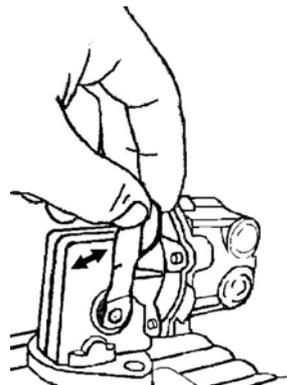

Fig. 5.3
- (1) Check fuel cock located at the tank delivery is open.
- (2) For engines equipped with Ronim-V and SMI gearboxes, then operate repeatedly (for 6 or 7 times) the lever of the fuel pump (fig. 5.3). If the manual pump valve is clogged, difficult bleeding can result. In such a case, remove the air vent bolt and inlet-side hose from the filter and clean the valve with pressure air.